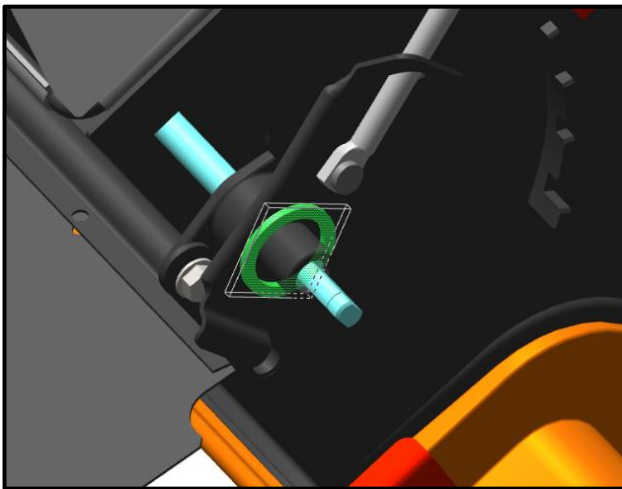

Figure 10
- When doing Step 9 in reverse, there may be a Washer that must be reinstalled on your machine between the Height Adjust Lever and the Axle Weldment (**Figure 10**). This is not present on all machines.